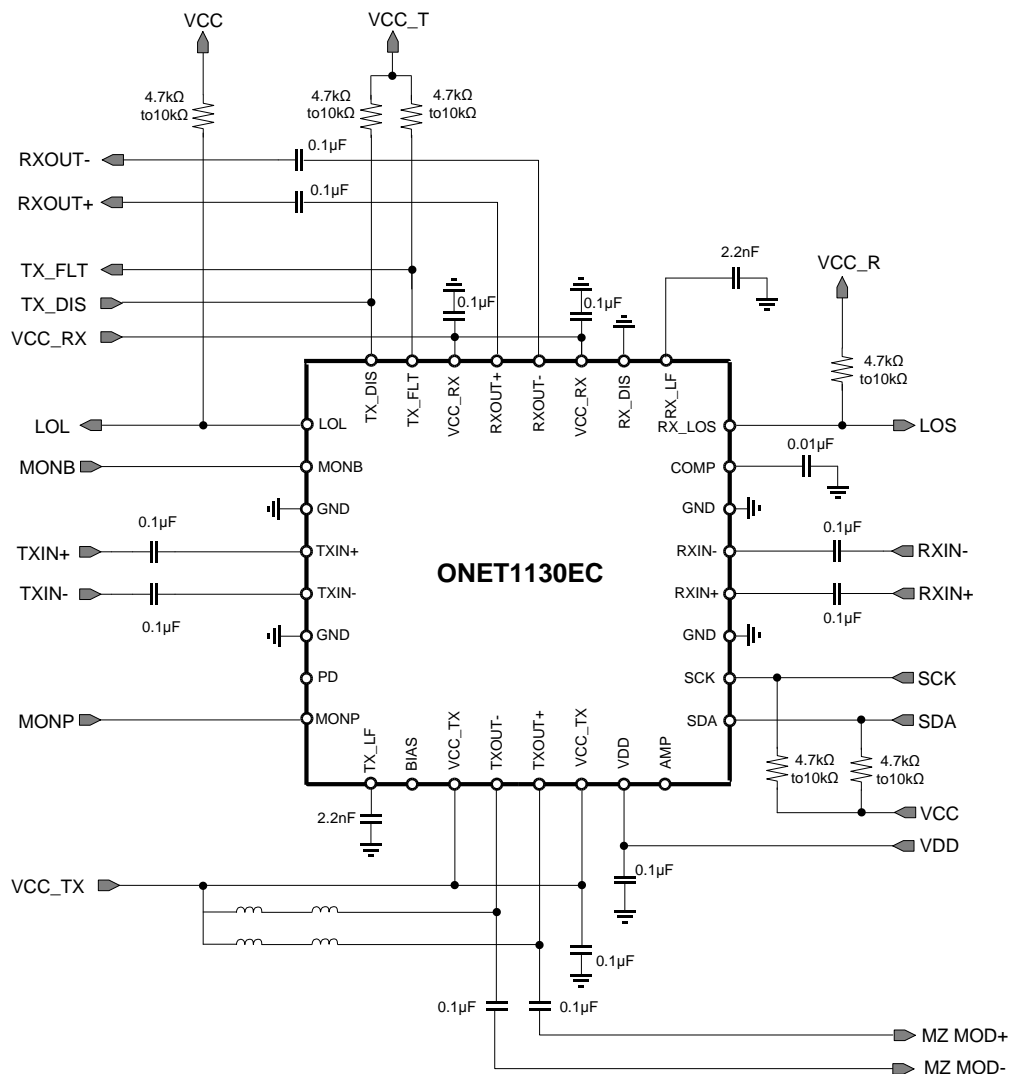
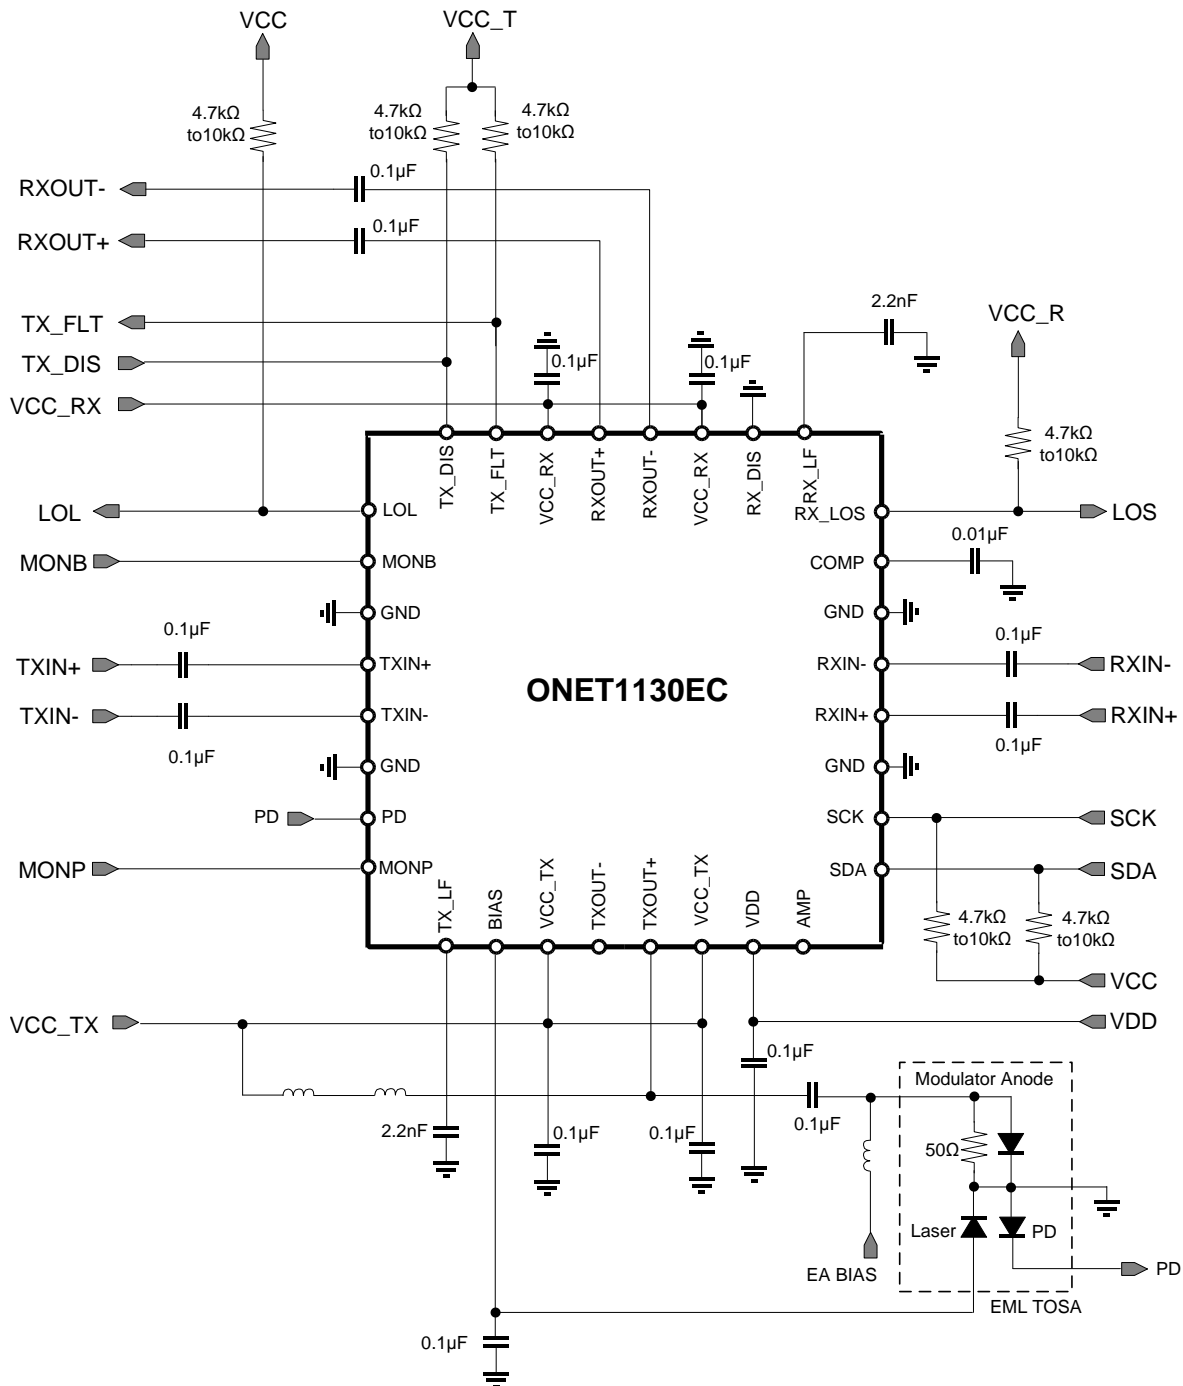
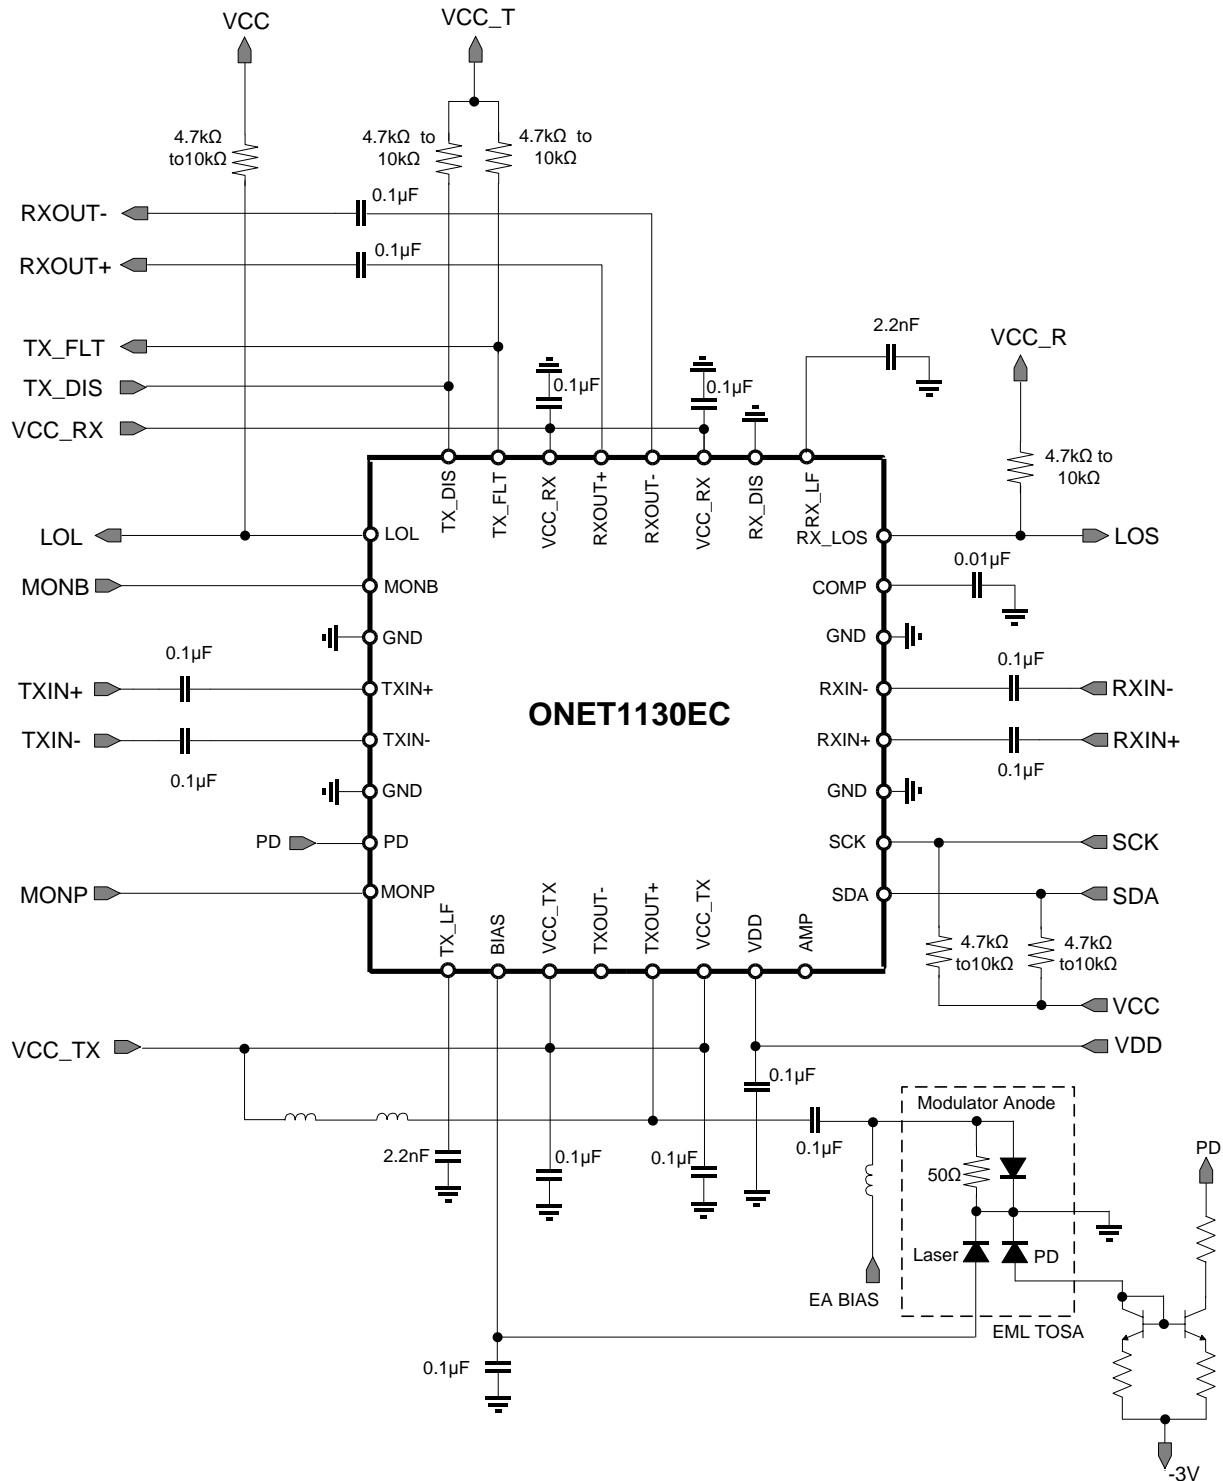

Figure 68. Typical Application Circuit in Differential Mode
Figure 70. Typical Application Circuit in Single-Ended Mode with an EML and the PD Monitor Cathode Available
Figure 71. Typical Application Circuit in Single-Ended Mode with an EML and the PD Monitor Anode Available
The ONET1130EC is designed to be used in conjunction with a Transmitter Optical Sub-Assembly (TOSA) and a Receiver Optical Sub-Assembly (ROSA). The ONET1130EC, TOSA, ROSA, microcontroller and power management circuitry will typically be used in an XFP or SFP+ 10 Gbps optical transceiver. Figure 68 shows the ONET1130EC in differential mode of operation modulating a differentially driven Mach Zehnder (MZ) modulator TOSA and Figure 70 and Figure 71 show the device in single-ended output mode with an Electroabsorptive Modulated Laser (EML) TOSA. Figure 70 has the photodiode cathode available and Figure 71 has the photodiode anode available.